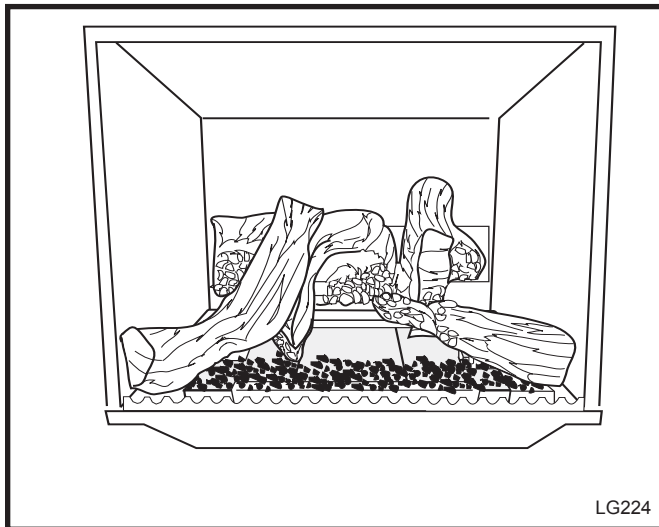

Fig. 18 UVS27 logs in place.
5. Loosely sprinkle the lava rocks directly on top of the burner just behind decorative grate. (Fig. 18) Do not place lava rocks toward back of burner. The lava rock is shipped inside the bag assembly.